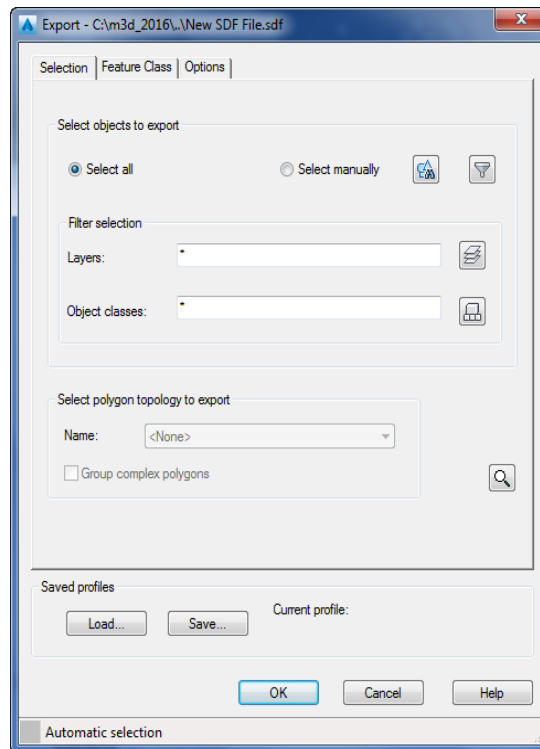

Figure 2-36 The **Export** dialog box with the **Selection** tab chosen
- Now, choose the **OK** button; the dialog box is closed and the **Export** dialog box is displayed with the **Selection** tab chosen, as shown in Figure 2-36.